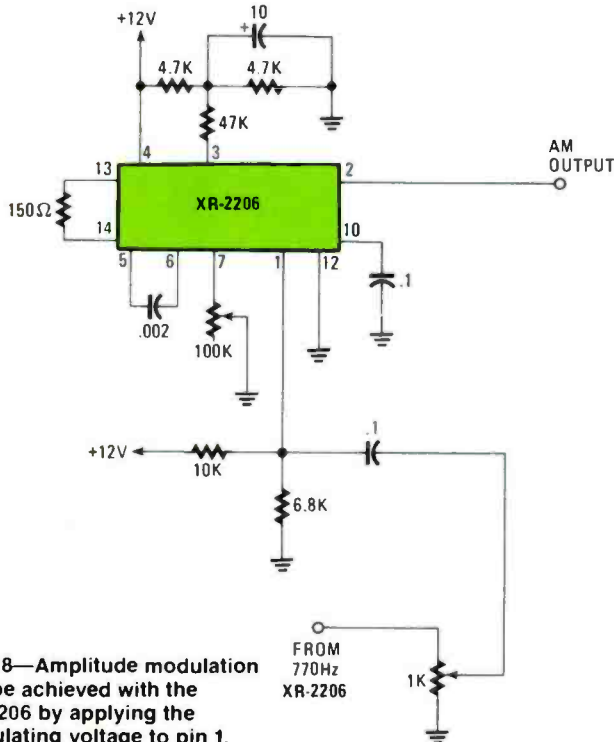

Fig. 18—Amplitude modulation can be achieved with the XR-2206 by applying the modulating voltage to pin 1.
- Rewire the circuit as shown in Fig. 18.